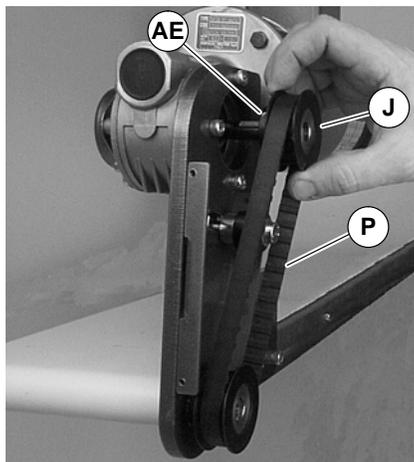

Figure 16
NOTE: If drive pulley (J of Figure 16) is replaced, wrap timing belt around drive pulley and complete step 3.
3. Loosen drive pulley set screws (AE of Figure 16). Remove drive pulley (J) and timing belt (P).
NOTE: Drive pulley (J of Figure 16) is removed. Wrap timing belt around drive pulley and complete step 14.